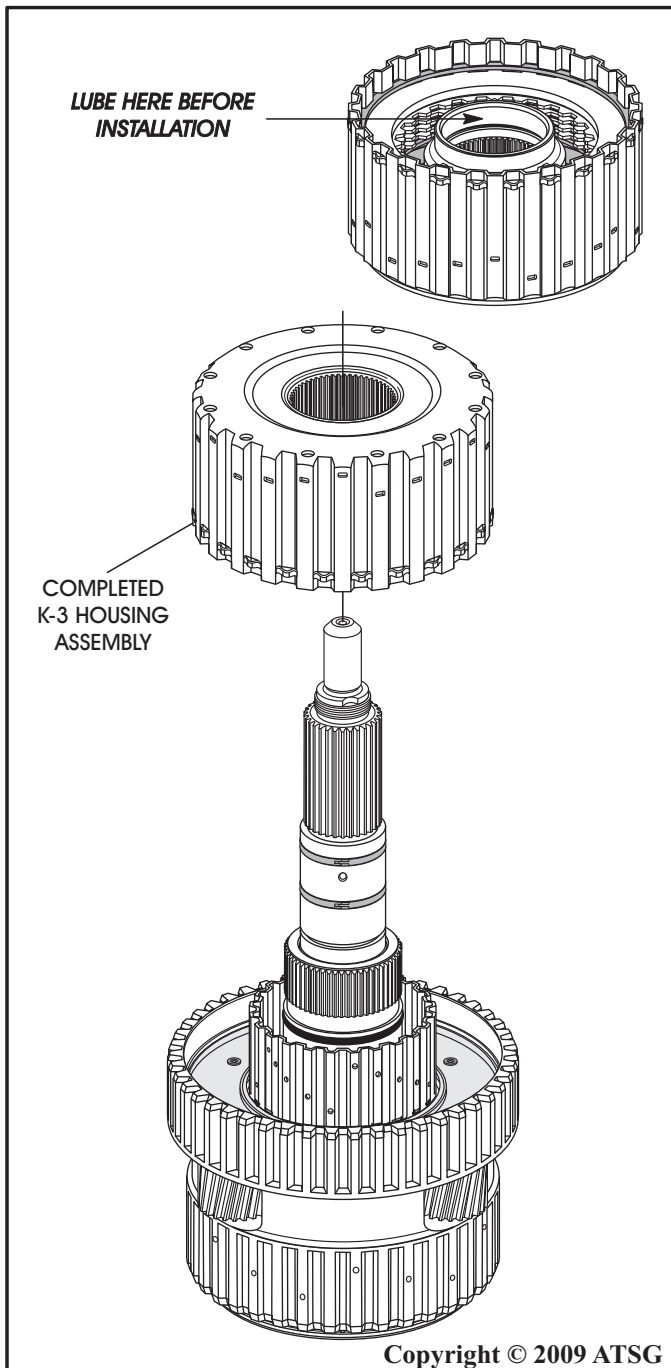

Figure 148
52. Lubricate the inside diameter of the K-3 piston in completed K-3 clutch housing with a small amount of Trans-Jel® (See Figure 148).
53. Install the completed K-3 clutch housing, as shown in Figure 148, rotating back and forth until fully seated.